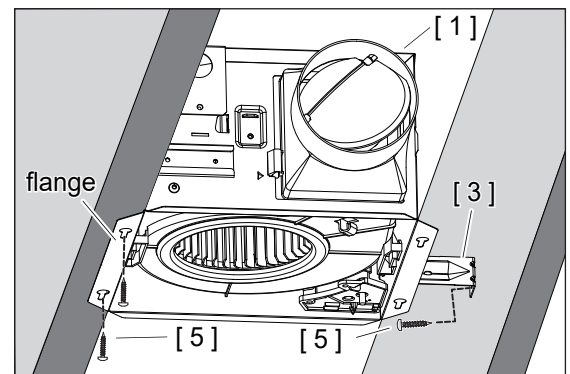

Fig 6
2. Position and hold the Fan Body [ 1 ] to the joist (truss or framing) as figure shows. Make sure the flange of housing is flush to the edge of joist. (Fig 6)
3. Secure the flange with Long Screws [ 5 ] as figure shows. (Fig 6)
4. Secure the Long Bracket [ 3 ] to joist with one Long Screw [ 5 ]. (Fig.6)